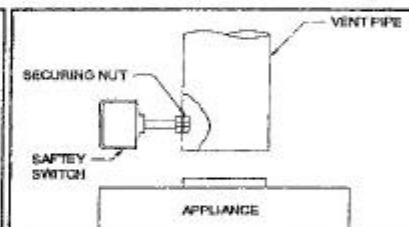

Figure 2
2. Insert the threaded pipe end into the pierced hole, then install the securing nut, then install the securing nut, which was removed in step 1, and tighten securely. (See Figure 2)